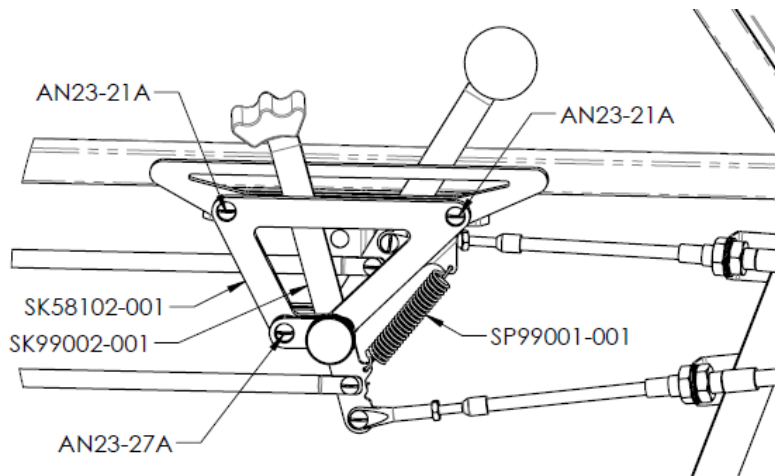

Figure 1 – Replacement Components Installed
4. Reassemble the forward controls with the replacement parts. Replace the propeller lever with SK99002-001, and replace the spacer block with SK58102-001. Add an extension spring (SP99001-001) between the spacer block and the prop lever as shown in Figure 1.
- b. Verify that the throttle and propeller levers do not hit the interior panel or the AN23-21A bolts in the control assembly (see Figure 1). The movement of the throttle and propeller levers should be limited by the mechanical stops firewall forward, not the interior panel or control assembly bolts.
- c. Verify that the propeller lever does not spring forward when the lever is pulled to the aft position. If there is a tendency of the lever to spring forward, the friction in the system may need to be increased by tightening the bolts that mount the control assembly. In particular, tightening the AN23-27A bolt noted in Figure 1, will increase the friction in the system.